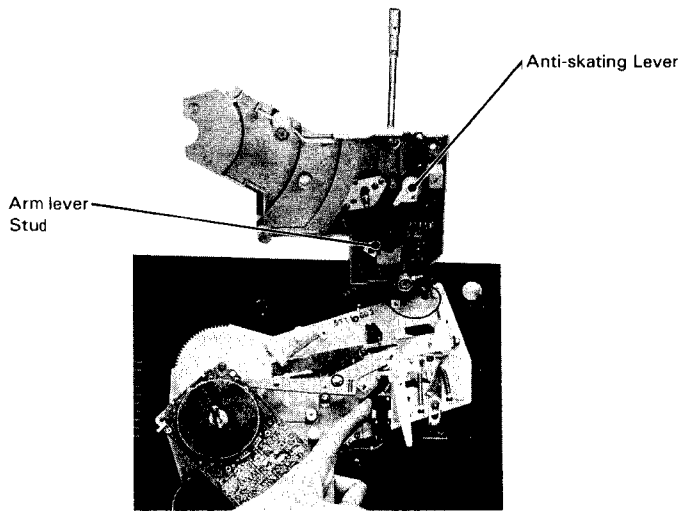
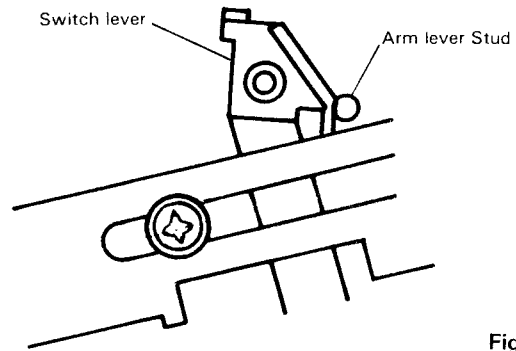

Fig. 10
Fig. 11
1. Push the switch lever by top of the finger as shown in Fig. 10, then mount the pickup base ass'y. So that, the stad of the arm lever is located as shown in Fig. 11.